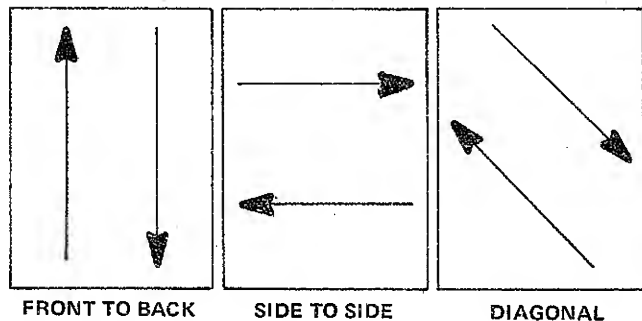

Figure 3-11. Mowing Patterns
K. Change patterns occasionally to eliminate matting, graining and a corrugated appearance. See diagram on Figure 3-11. To collect lawn clippings, a vacuum collector is available from your Simplicity dealer.